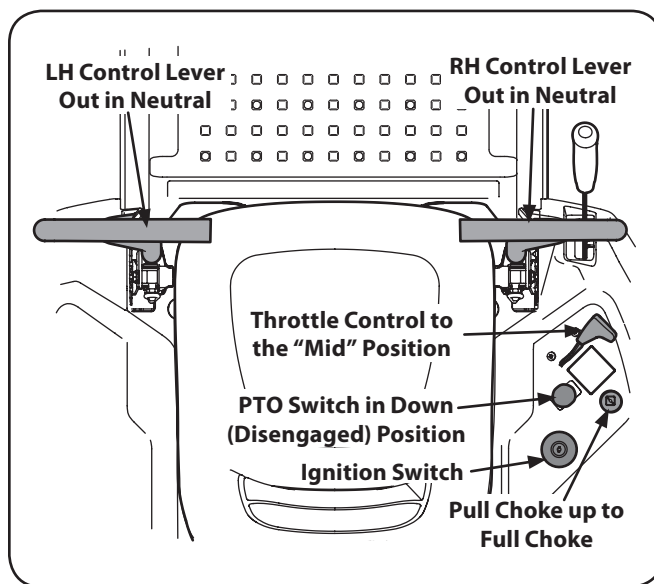

Figure 5-1
2. Make certain the PTO switch is in the disengaged (down) position. Refer to Figure 5-1.
3. Move the choke control or throttle/choke control into the full choke position. Refer to Figure 5-1.